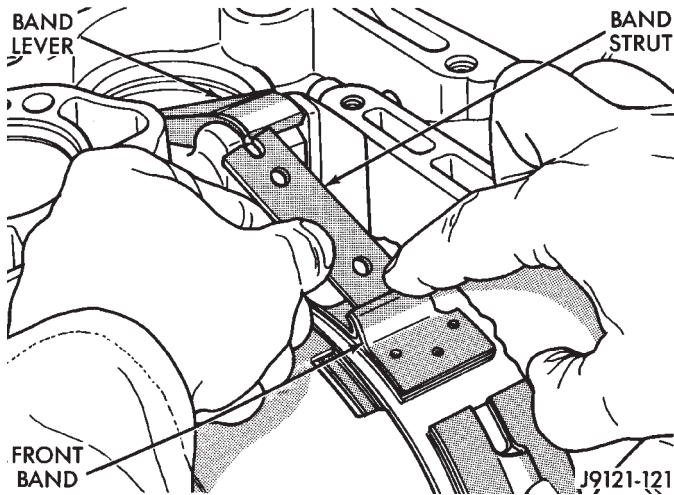

Fig. 102 Removing/Installing Front Band Strut
(17) Loosen front band adjusting screw until band is completely loose.
(18) Squeeze front band together and remove band strut (Fig. 102).